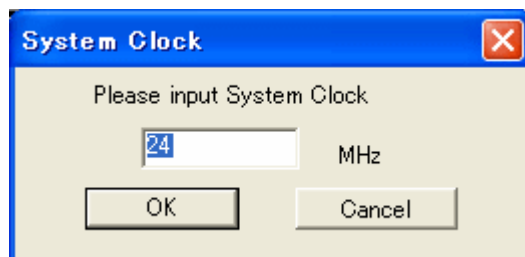

Figure 3.41 [System Clock] Dialog Box
11. When using the H8S family microcomputer, the dialog box shown in figure 3.41 is opened.